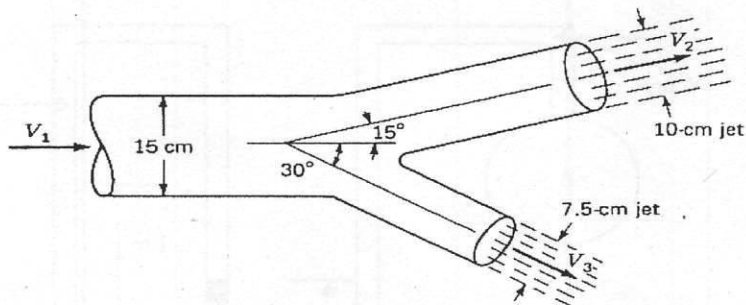

Figure 4
(c) Determine the magnitude and direction of the resultant force exerted on the double nozzle as shown in Figure 4. Both nozzle jets have a velocity of 24 m/s. The axis of the pipe and both nozzles lie in a horizontal plane, $\gamma = 9.81 \text{ kN/m}^3$. Neglect friction. (11)